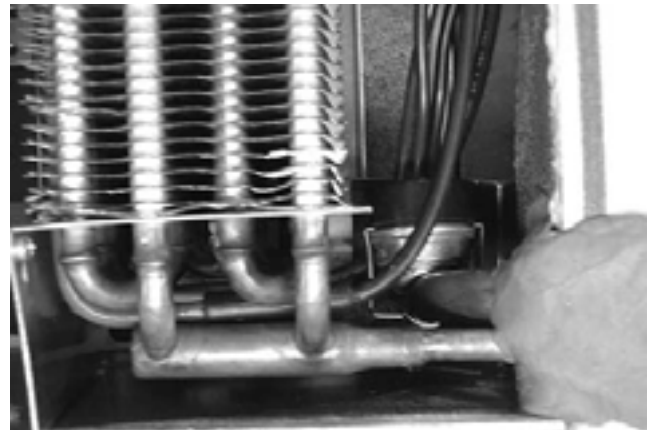

Figure 4-55
2. Locate the 3-wire defrost termination/fan delay switch, clamped to the suction line (Figure 4-55).